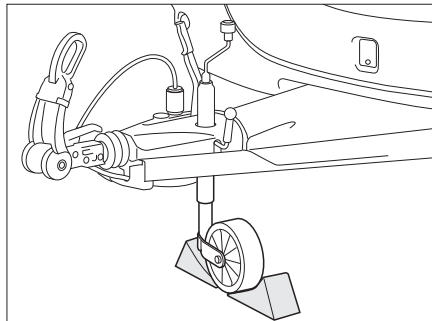

Fig. 161 Securing support wheel
- Place the support wheel diagonal to the direction of travel and secure with suitable tools (Fig. 161).